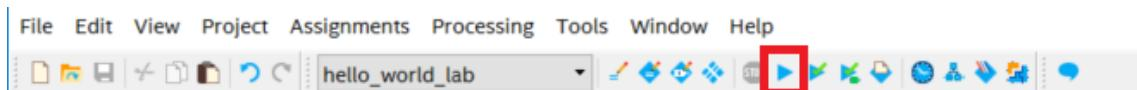

Figure 34: Compilation Button on Quartus Toolbar
- Click on the play button as shown in Figure 34.